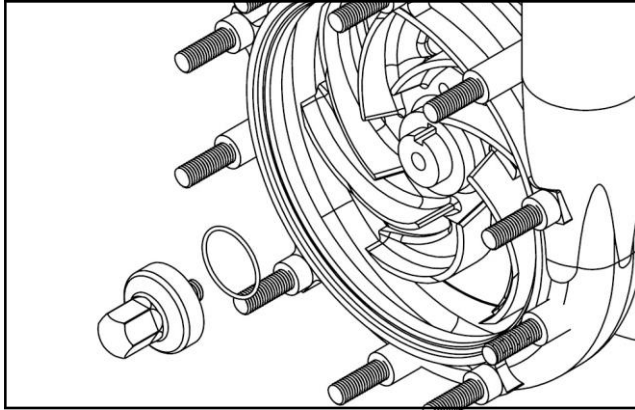

Figure 3
5. Once the impeller nut has been loosened, the impeller stop tool may be removed. Remove the impeller nut and the nut gasket. This process can be seen in Figure 3.